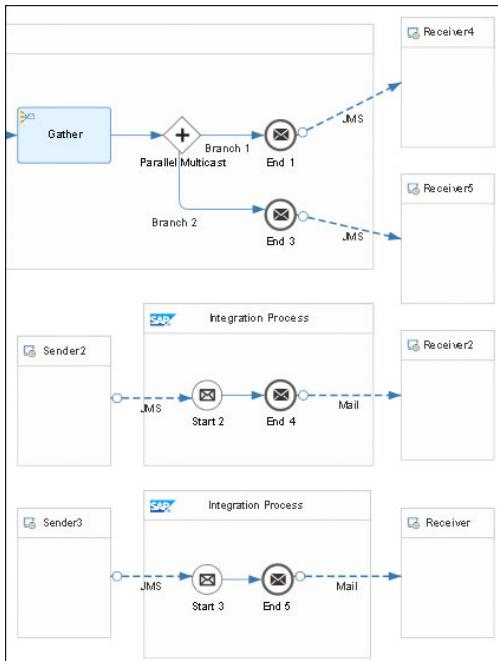

Figure 5.95 Configuration of JMS Outbound Queues for Both Receivers
10. Create another **Integration Process** configuring a JMS outbound queue for **Receiver**. Execute the same configuration steps, move the existing **Mail** channel to the new integration process, and use **Outbound_Queue1** as the **Queue Name** in the **JMS** adapter. The configuration of the JMS outbound queues now looks similar to Figure 5.95.